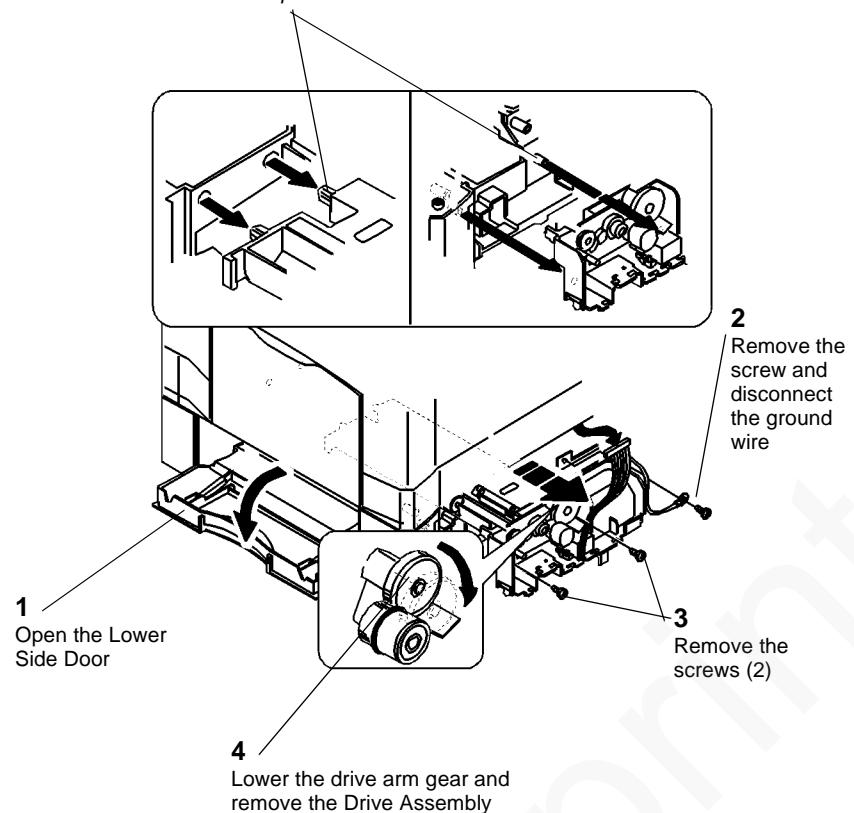

Figure 2 Removing the Drive Assembly
2. (Figure 2): Remove the Tray 2 Drive Assembly.